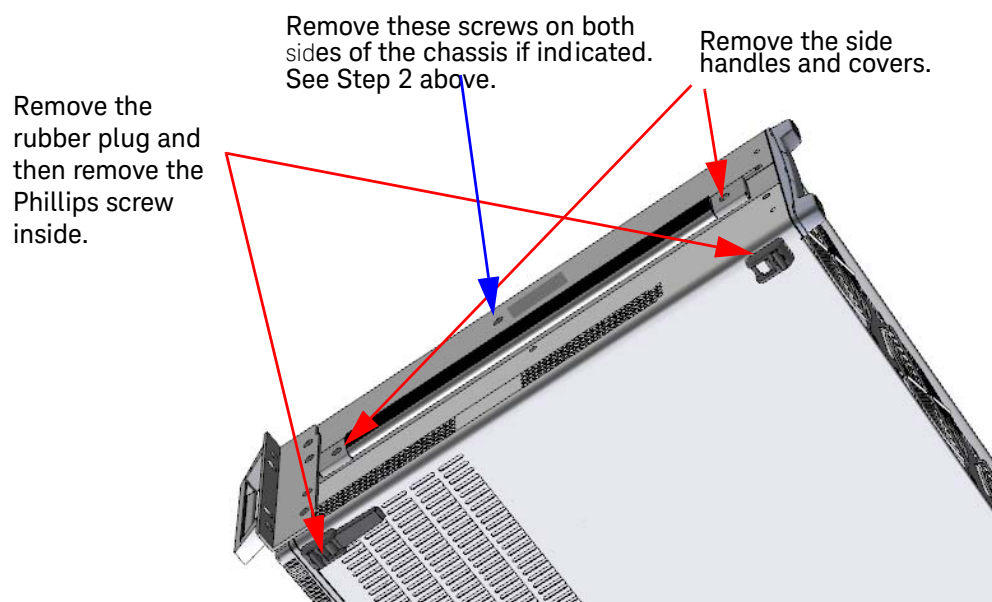

Figure 1 Removing the chassis feet, side handles, and shipping screws
- 1 Refer to Figure 1. Remove the side handles and handle covers from both sides of the M9018A PXIe chassis.
- 2 On M9018A chassis with serial number TW54XXXXX and later, two additional screws must be removed (one on each side of the chassis). Refer to Figure 1. Note that earlier chassis did not have these screws.
- 3 Remove the four chassis feet by pulling out the small rubber insert on each foot and then removing the Phillips screw that attaches the foot to the chassis. See Figure 1.